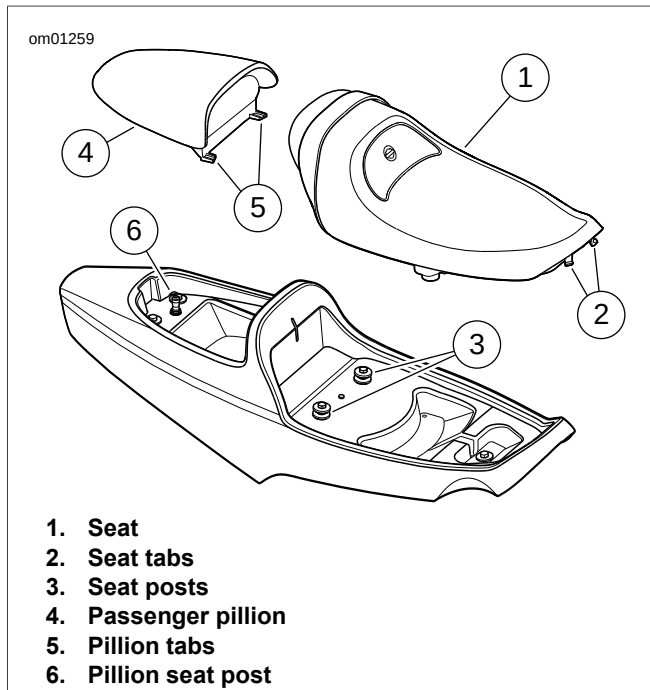

Figure 2-228. Seat and Pillion: XR 1200X
1. See Figure 2-228. Align the guides in the seat bracket with the seat posts. Place rear of seat into tailsection.